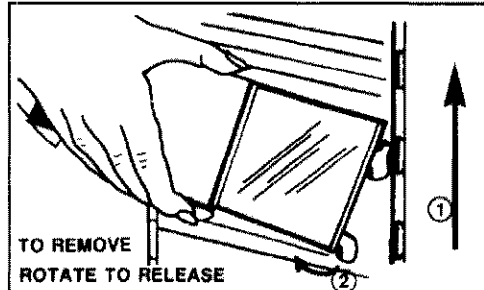

FIGURE 39
**Door Shelves.** Door shelves can be moved up or down to fit storage needs. See Figure 39. To remove, loosen shelf by tapping upwards gently underneath both ends. ① Lift shelf slightly. Rotate bottom out and up to release mounting hooks from door slots. To install, tilt shelf and insert upper hooks into any two door slots as shown. ② Rotate shelf bottom towards door and insert bottom hooks into door slots. Hold shelf against door and tap down gently on both ends until shelf is seated securely.